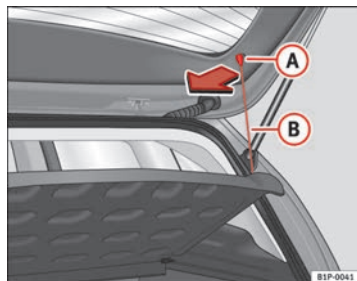

Fig. 105 Rear shelf
- Unhook the loops ⇒ fig. 105 B from housings A